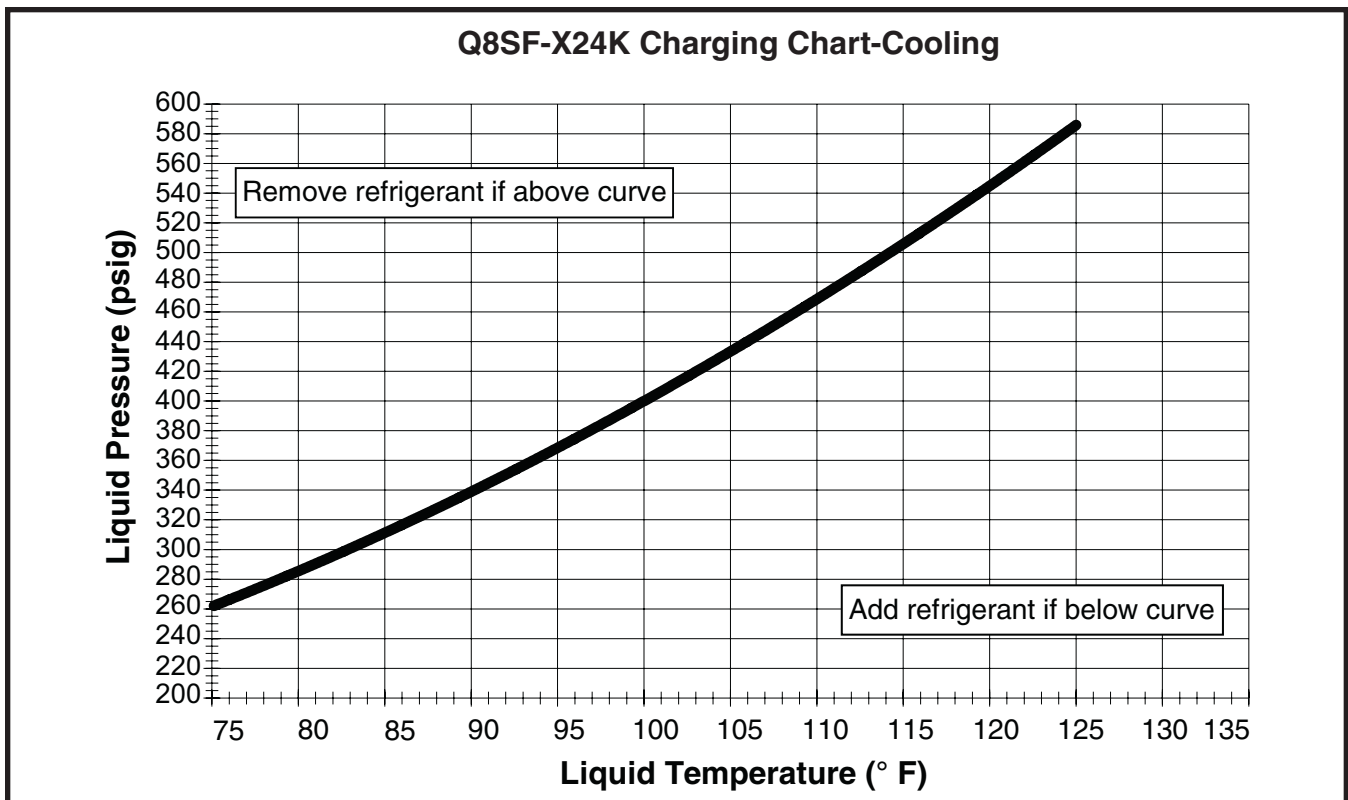
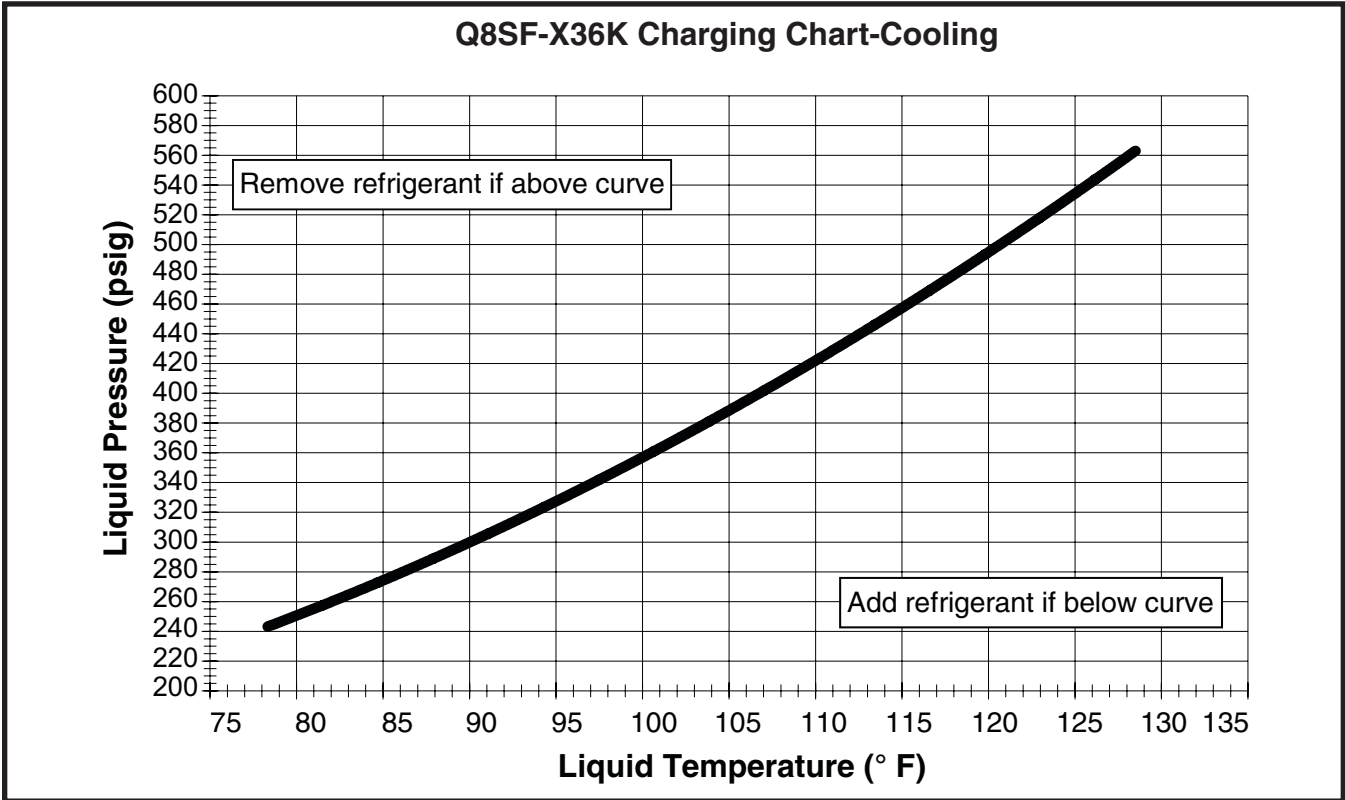

Figure 7. Charging Chart for 2 Ton Units
Figure 8. Charging Chart for 3 Ton Units
- The refrigerant charging charts are applicable at listed airflows and minimum indoor and outdoor air temps. See Figure 7 \(page 11\), Figure 8 \(page 12\), & Figure 9 \(page 12\).
3. For the temperature measured, determine the required liquid refrigerant pressure from the appropriate charging charts in Figure 7 \(page 11\), Figure 8 \(page 12\), & Figure 9 \(page 12\).
- Charging charts are valid for a variety of indoor, return air conditions and are most influenced by the outdoor ambient temperature, outdoor fan operation and the unit operating voltage. Before using these charts, make sure the unit is in a stable operating mode. As shown in the charging charts, the ideal system sub-cooling can vary over the range of operation. Reference the charts (Figure 7 (page 11), Figure 8 (page 12), & Figure 9 (page 12)) to determine the ideal amount of sub-cooling for a given liquid pressure. Units charged to other values will not perform at the rated unit efficiency (EER) or rated Coefficient of Performance (COP) in heating mode.